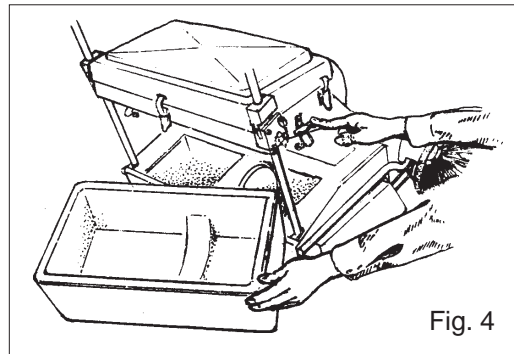

Fig. 4
3. Release the two (2) retaining latches on either side of the hopper.
6. Snap retaining latches to hold hopper. (See Fig. 4)